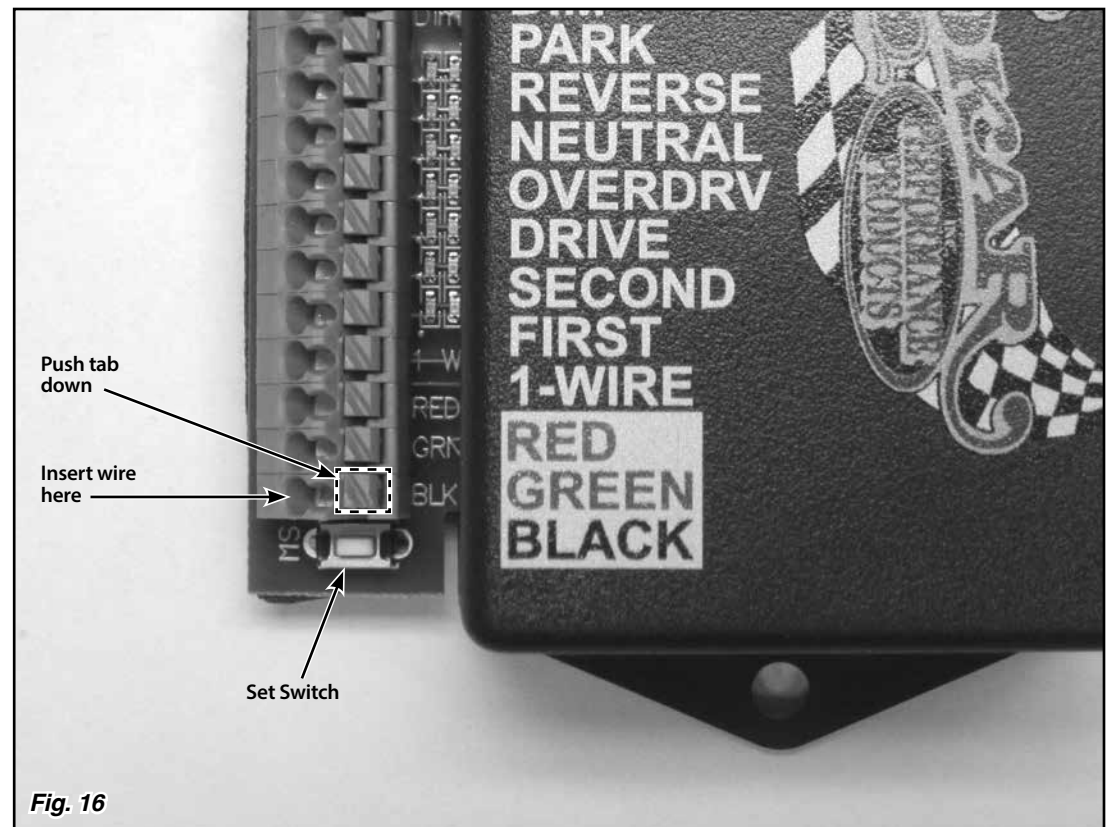

Fig. 16
The sensor has a 10 foot long gray cable attached to it. This cable contains 3 wires which connect to the decoder box. To connect the wires to the decoder box, push down on the tab to insert the wire into the terminal on the decoder box. **Fig. 16** Connect the red wire to the terminal marked RED. Connect the green wire to the terminal marked GREEN. Connect the black wire to the terminal marked BLACK.
Step 2: Press and hold the set switch. **Fig. 16** Turn the ignition key on while holding the set switch down. Then, release the set switch.